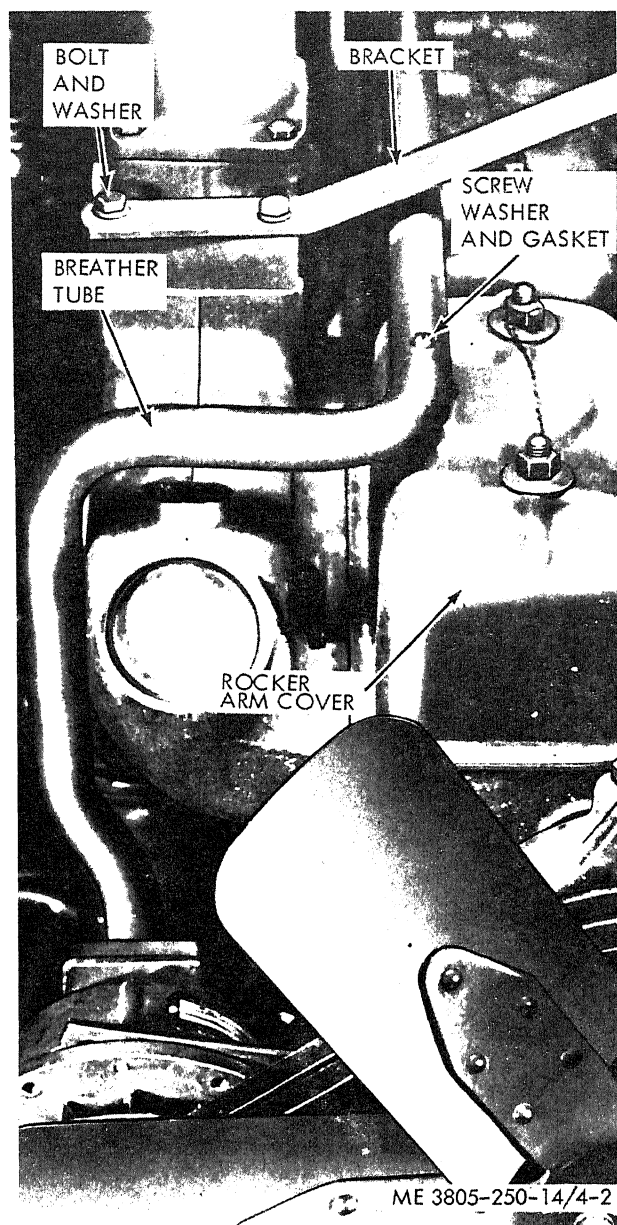

Figure 4-2. Crankcase breather.
a. Replacement. (fig. 4-2)
(1) Remove the exhaust pipe (para 4-22), air cleaner (para 4-21), side engine panels, and hood (para 4-51).
(2) Remove three screws, washers, and gaskets securing the breather tube to the rocker arm cover. Discard the gaskets.
(3) Remove two bolts and washers which secure the tube bracket. Remove the tube.
(4) Install the tube by reversing the removal procedure.